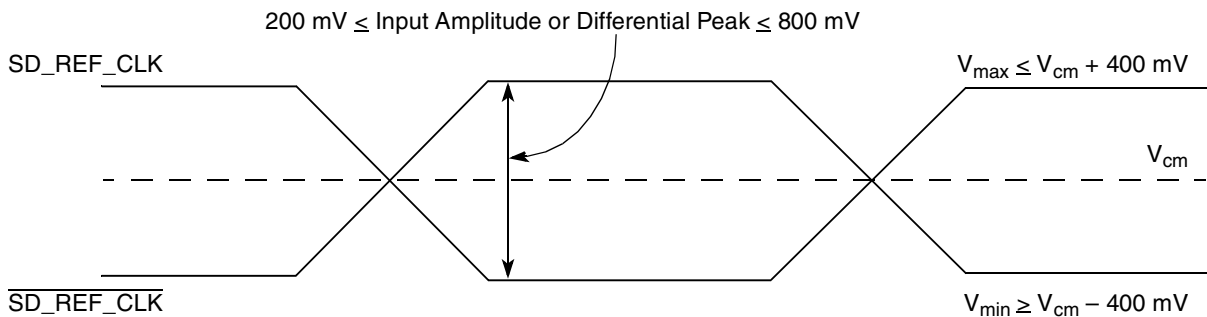

Figure 41. Differential Reference Clock Input DC Requirements (External AC-Coupled)
- For external AC-coupled connection, there is no common mode voltage requirement for the clock driver. Since the external AC-coupling capacitor blocks the DC level, the clock driver and the SerDes reference clock receiver operate in different command mode voltages. The SerDes reference clock receiver in this connection scheme has its common mode voltage set to SGND\_SRDSn. Each signal wire of the differential inputs is allowed to swing below and above the command mode voltage (SGND\_SRDSn). Figure 41 shows the SerDes reference clock input requirement for AC-coupled connection scheme.